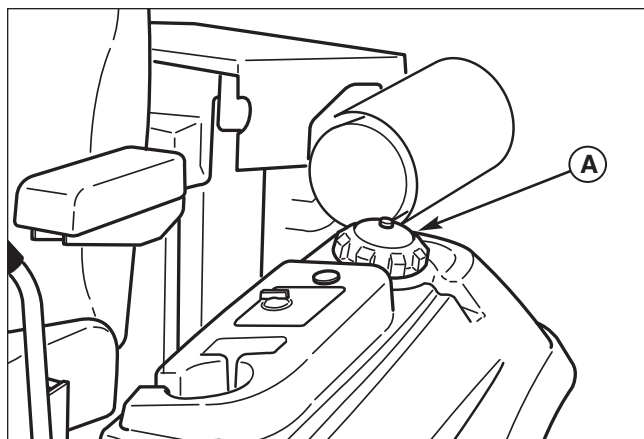

Figure 13. Fuel Tank Fill
1. Remove the fuel cap (A, Figure 13).
1. Remove the fuel cap (see A, Figure 13).